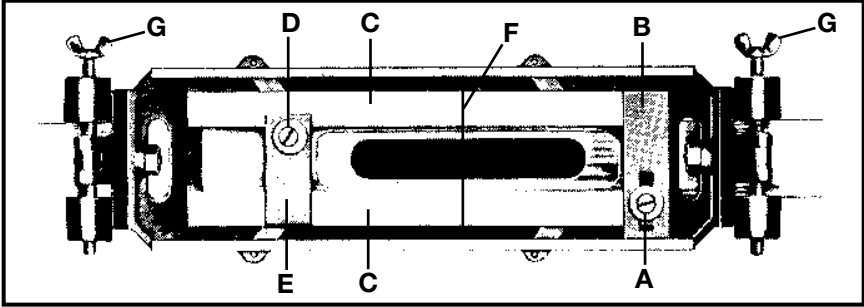

Fig. 12
1. Loosen locking screw (A), Fig. 12.
2. Adjust side guides (C), Fig. 12, so the space between them is 1/8" (3.2 mm) wider than the lock face.
3. Firmly tighten screw (A).
4. Loosen locking screw (D), Fig. 12.
5. Adjust guide bar (E), Fig. 12, distance between (E) and (B) is 1/8" (3.2 mm) longer than the lock face.
6. Firmly tighten screw (D).
2. Draw line (F), Fig. 12, on the templet side guides (C), midway between bars (B) and (E).
3. Position templet on door so line (F) on templet matches line drawn on the door edge at the center of the mortise cut.
4. Tighten the two wing screws (G), Fig. 12 to lock templet in place.